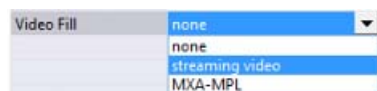

FIG. 143 TPDesign5 - Video Fill (State) property
9. In the desired state tab, set the *Video Fill* property to **streaming video** (FIG. 143). Note that this selection enables the *Streaming Source* property.